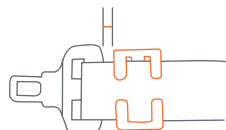

Fig. 45-3
- Secure the shoulder belt to the lap belt by installing the locking clip 1/2 inch from the buckle as shown in Fig. 45-3.